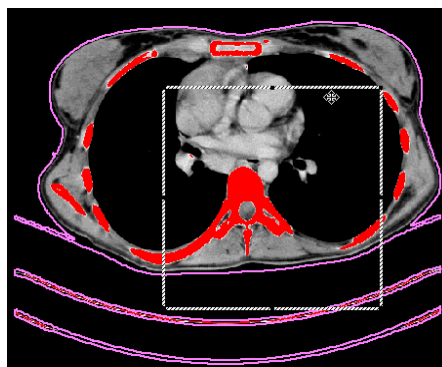

Figure 269 – Moving the rectangle constraint
- Move the rectangle or drag the sides to change its size until the desired area is demarcated (see Figure 269).